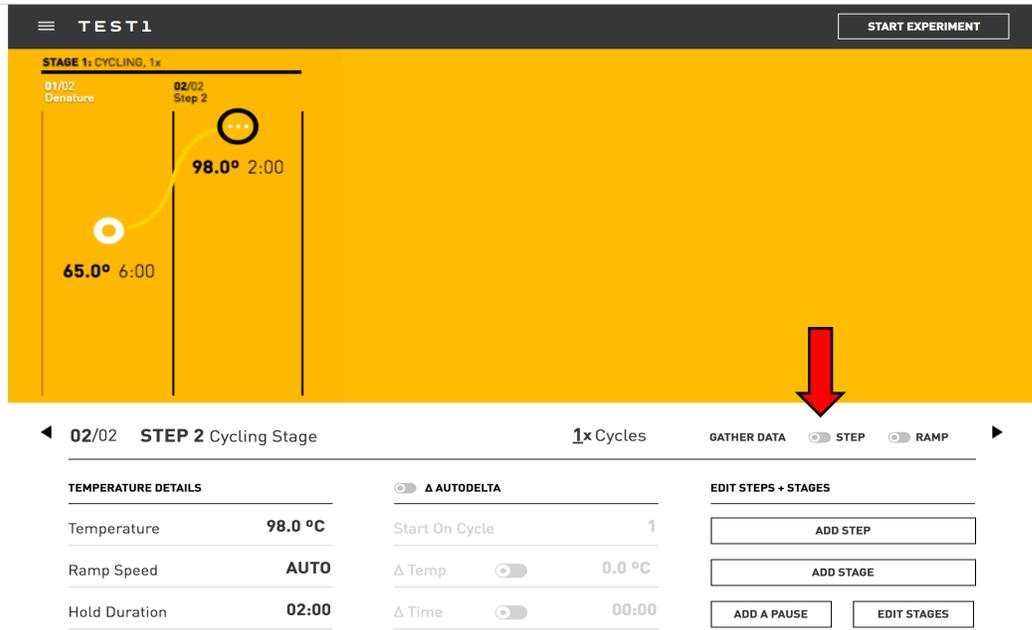

Figure 1. Open qPCR Protocol for preparation of Crude Cell Extract.
2. Preparation of Crude Cell Extract: Set protocol in the Open qPCR instrument as shown in figure 1, making sure the gather data (red arrow) is turned off under step 2. Place the tubes containing the sample in the Open-qPCR, close the lid, and start the protocol. This will heat the sample at 65 °C for six minutes to digest cellular proteins, including nucleases that would otherwise degrade the DNA, further releasing the DNA into solution. Heating the sample at 98 °C for two minutes will inactivate the enzymes that would otherwise interfere with downstream applications such as PCR or qPCR. Once the protocol completes, carefully remove the PCR tube (the lid and the tube holder will be hot) and cool the contents to room temperature. Centrifuge to collect the condensate and to separate the extract from the debris. You can leave the leaf sample in the crude extract and use the crude extract for PCR amplification. Keep on ice. The crude extract can be stored at -20 °C for at least two-four months and used for analysis. Best results are obtained with freshly prepared crude cell extracts.